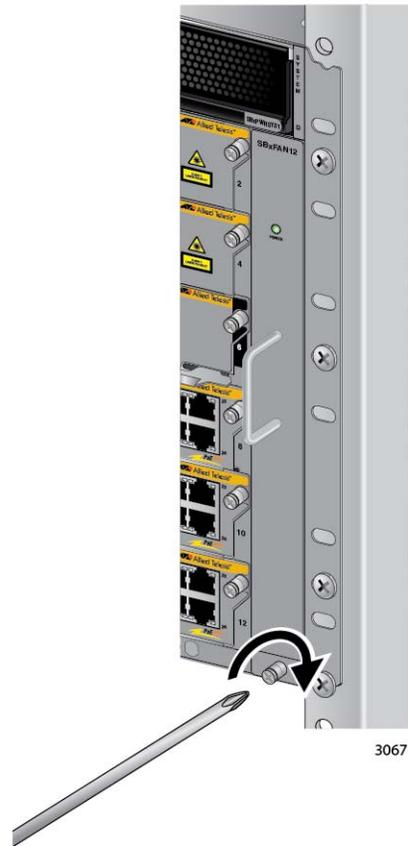

Figure 175. Tightening the Screw on the AT-SBxFAN12 Fan Module
3. With a #2 Phillips-head screwdriver, tighten the screw at the base of the module to secure the module to the chassis. Refer to Figure 175 on page 270.